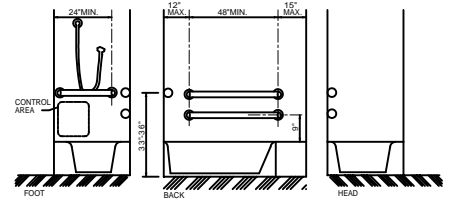

FIG. 34 GRAB BARS AT BATHTUBS
- 4.20.3 SEAT. AN IN-TUB SEAT OR A SEAT AT THE HEAD END OF THE TUB SHALL BE PROVIDED AS SHOWN IN FIG. 34. THE STRUCTURAL STRENGTH OF SEATS AND THEIR ATTACHMENTS SHALL COMPLY WITH 4.26.3. SEATS SHALL BE MOUNTED SECURELY AND SHALL NOT SLIP DURING USE.
- 4.20.4 GRAB BARS. GRAB BARS COMPLYING WITH 4.26 SHALL BE PROVIDED AS SHOWN IN FIG. 34.
- 4.20.5 CONTROLS. FAUCETS AND OTHER CONTROLS COMPLYING WITH 4.27.4 SHALL BE LOCATED AS SHOWN IN FIG. 34.
- 4.21.2 SIZE & CLEARANCE. EXCEPT AS SPECIFIED IN 4.21.2, SHOWER STALL SIZE AND CLEAR FLOOR SPACE SHALL COMPLY WITH FIG. 34(a) OR (b). THE SHOWER STALL IN FIG. 34(a) SHALL BE 36" BY 60" (915mm BY 1525mm). THE SHOWER STALL IN FIG. 34(b) SHALL FIT INTO THE SPACE REQUIRED FOR A BATHTUB.
- 4.21.4 GRAB BARS. GRAB BARS COMPLYING WITH 4.26 SHALL BE PROVIDED AS SHOWN IN FIG. 34.
- 4.21.5 CONTROLS. FAUCETS AND OTHER CONTROLS COMPLYING WITH 4.27.4 SHALL BE LOCATED AS SHOWN IN FIG. 34 IN SHOWER STALLS 36" BY 36" (915mm BY 915mm) ALL CONTROLS, FAUCETS, AND THE SHOWER UNIT SHALL BE MOUNTED ON THE SIDE WALL OPPOSITE THE SEAT.